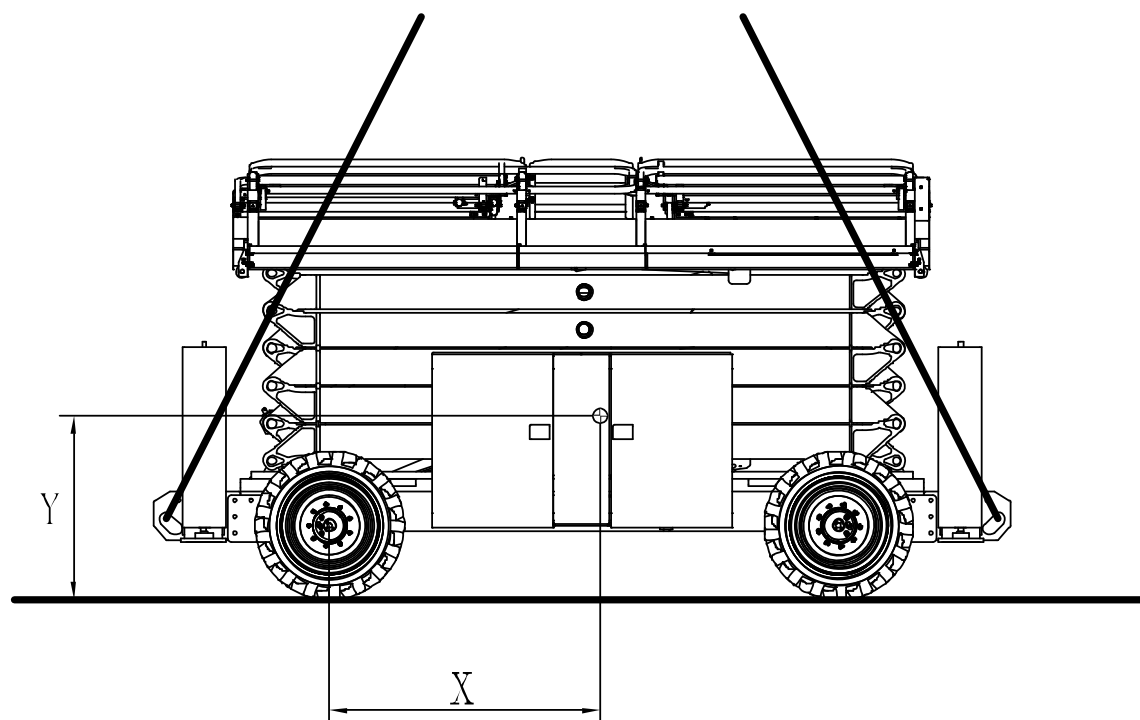

Figure 4-2 Center of gravity
- 2) Use Table 4-4 and Figure 4-2 to determine the center of gravity of the machine.